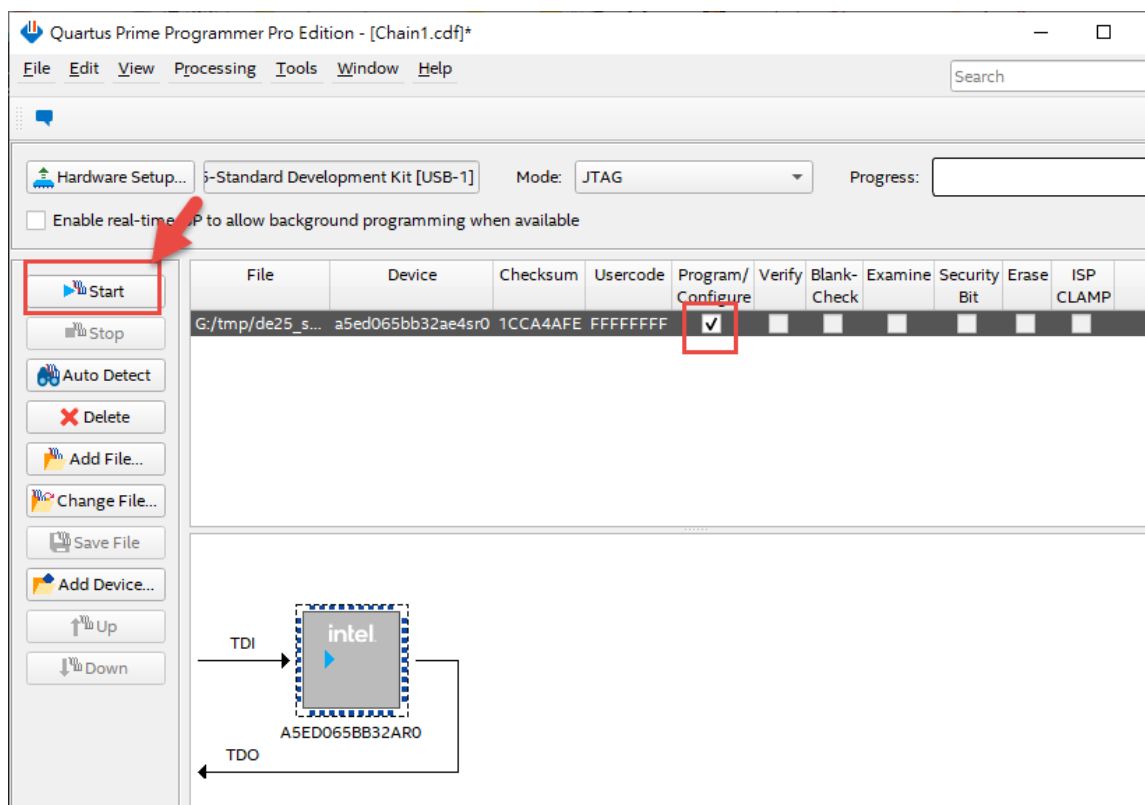

Figure 3-9 Program .sof file into the FPGA device
7. Click the “Program/Configure” checkbox and click “Start” button to download the .sof file into the FPGA device, as shown in **Figure 3-9**.